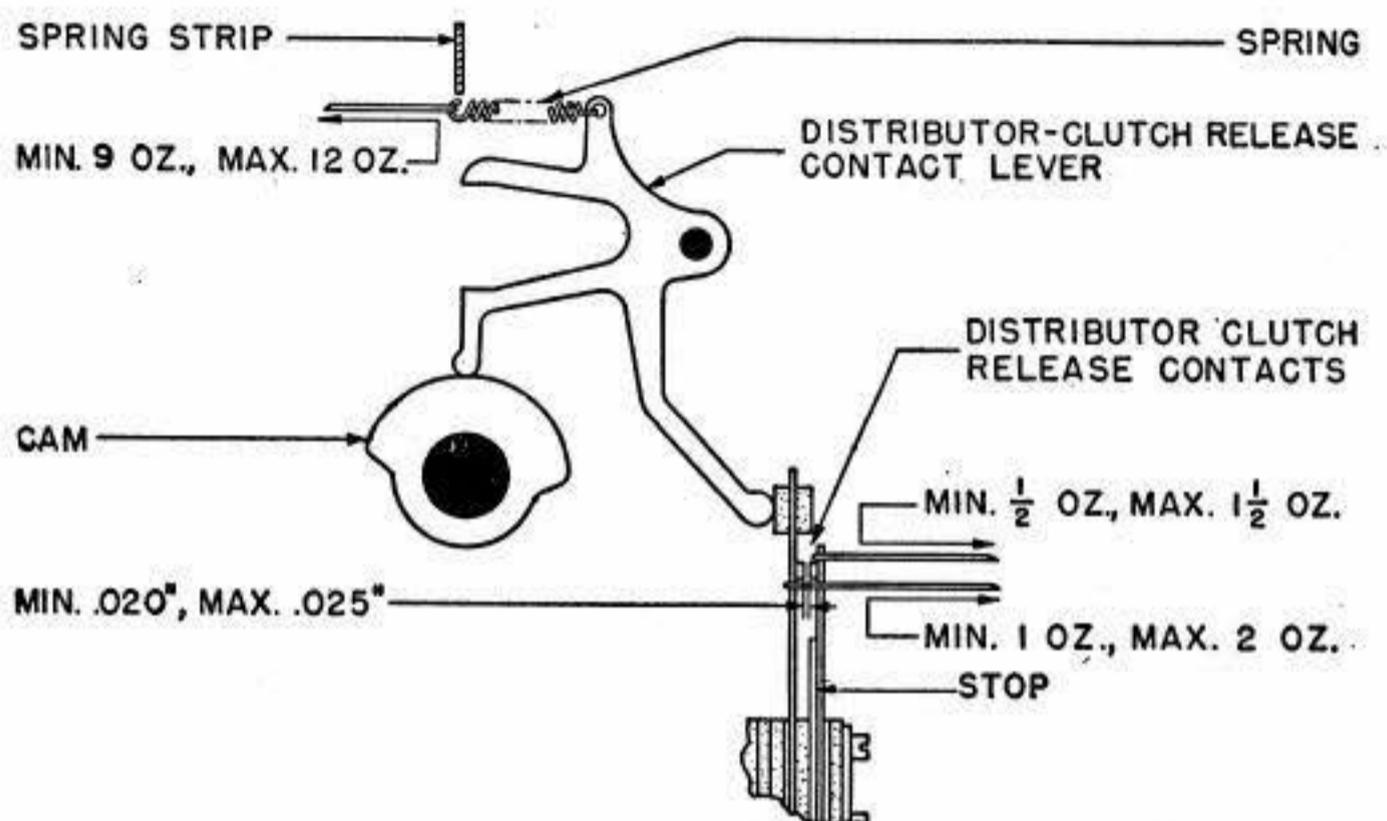

Fig. 67
(1) To adjust, bend the short-contact-spring stop. Re-check (a).
2.133 **Distributor-Clutch-Release-Contact-Lever Spring:** It should require a pull as indicated in Fig. 67 to pull the spring to position length with the distributor-clutch-release contact lever resting on the high part of its cam. **Fig. 67**
(a) It should require a pull as indicated in Fig. 67 to start the bakelite tip of the long-contact spring moving away from the contact lever. **Fig. 67**
(b) There should be a gap as indicated in Fig. 67 between the contact points. **Fig. 67**
(c) It should require a pull as indicated in Fig. 67 to just start each short-contact spring moving away from its stop. **Fig. 67**
(d) There should be some clearance between the short-contact springs and their stops when the contact levers are opposite the low part of the cam and the contacts are closed. **Fig. 67**